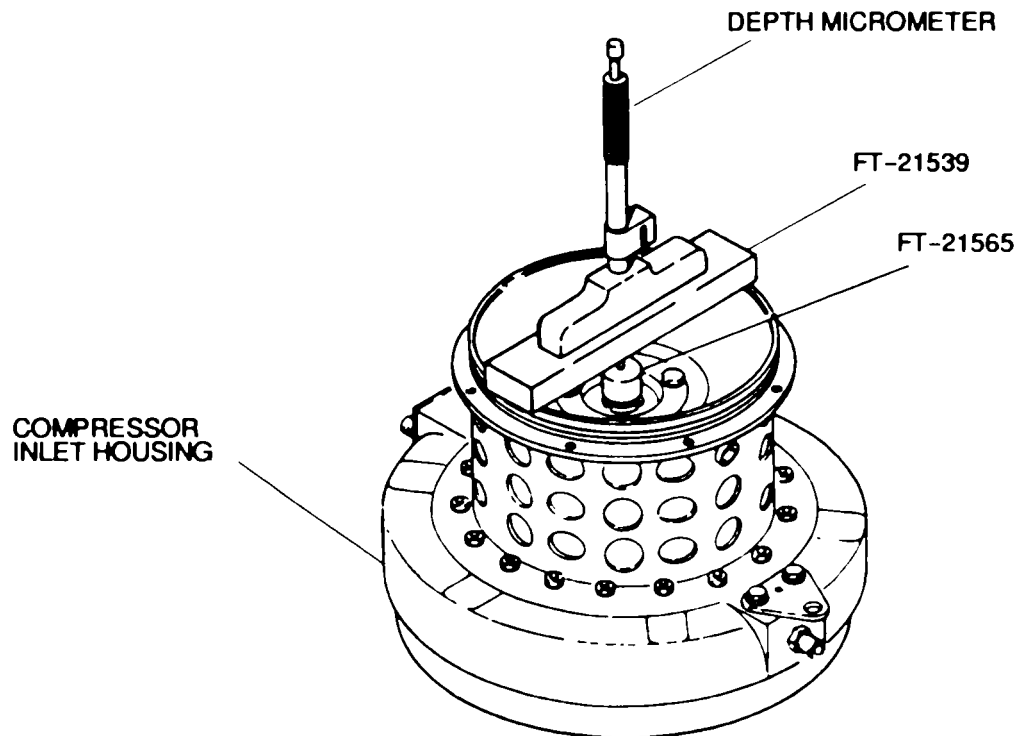

Figure 8-16. Obtaining Reading for Turbine Wheel Shaft Stretch for Final Assembly Using Fabricated Tools FT-21539 and FT-21565
(28) Place fabricated tool (FT-21565, Figure 8-16) on top of turbine shaft. Place fabricated tool (FT-21539) on top of compressor inlet housing. Center hole over fabricated tool (FT-2156). Take a base reading from the top of shaft to top of fabricated tool (FT-21539) using depth micrometer. Note the reading. The shaft must be stretched 0.007- 0.009 inch (0.018-0.023 cm) from the original reading.
(29) Tighten nut and remeasure shaft length. Repeat procedure until 0.007-0.009 inch (0.018-0.023 cm) stretch has been achieved.